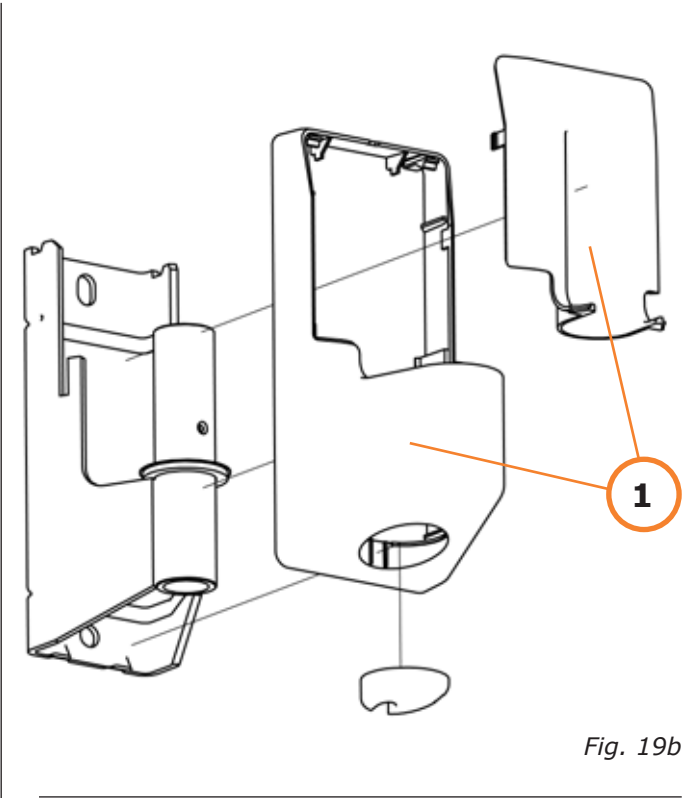

Fig. 19b
- 8.1.7 Mount the plastic covers (1/ Fig. 19b) by clicking them in place as shown in Fig. 19b.